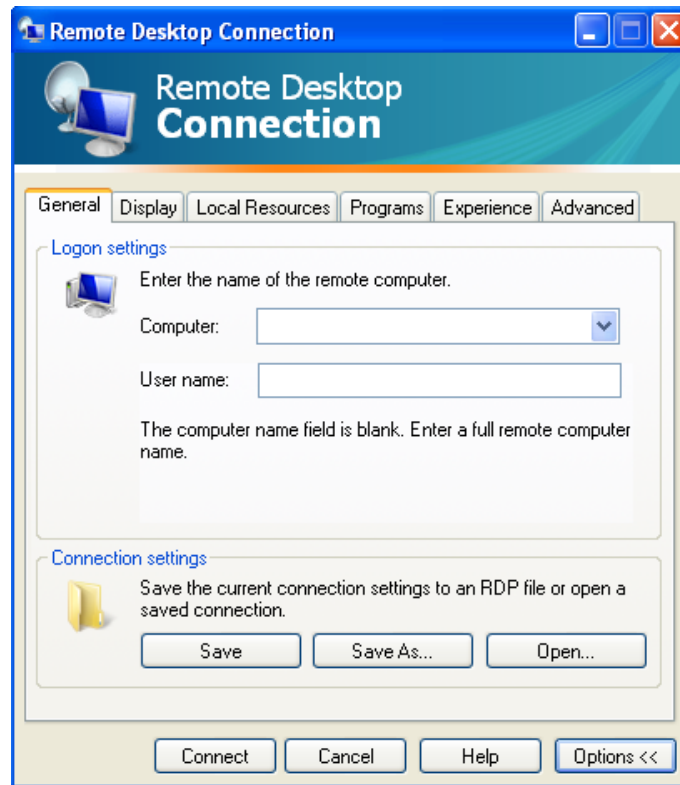

Figure 61. Remote Desktop Connection - General
12. Click **General**. The General window appears (Figure 61).